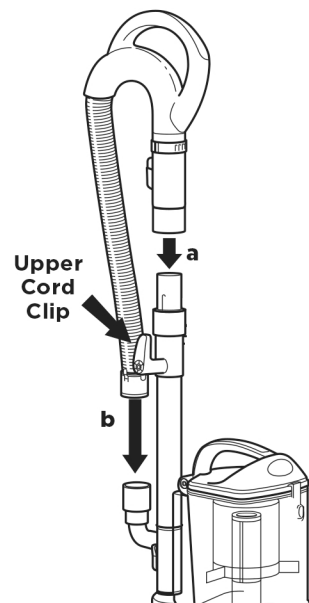

Fig. 10
- 4 Push the handle **(a)** onto the top of the wand until it clicks into place. **(Fig. 10)**
- 5 Insert the end of the stretch hose **(b)** into the connector on the back of the pod. **(Fig. 10)**